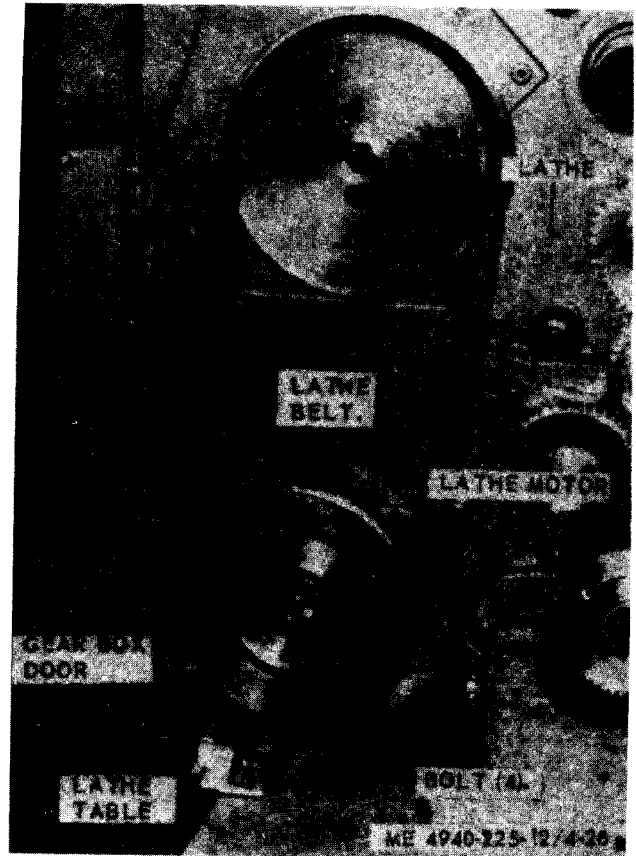

Figure 4-26. Lathe belt. removal and installation.
(1) Loosen the knob on the gear box door and open door.
(2) Loosen bolt (4) and remove belt.
b. Installtion. Install the lathe belt as illustrated in figure 4-26.
c. Belt Adjustment. Apply downward pressure on the motor to give belt a $\frac{1}{8}$ inch deflection midway between the pulleys and tighten bolt (4).